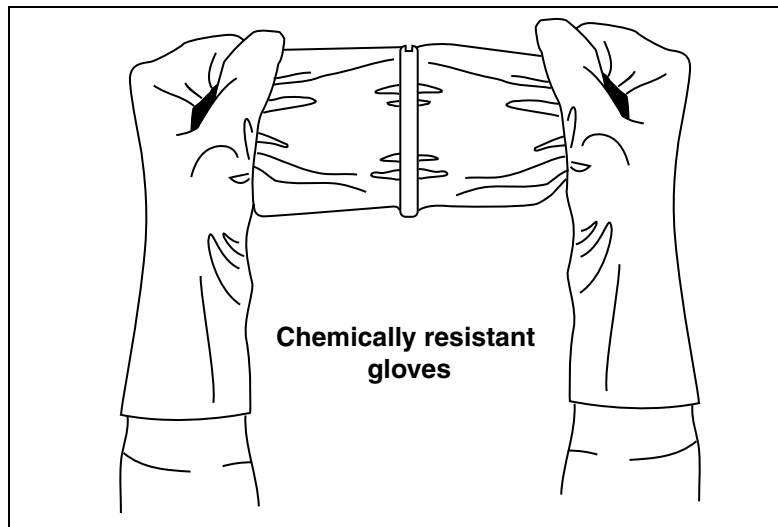

Figure 6. Removing Sealing Compound Clip
4. Remove bag of "Sealing compound" from foil package. Grasp the ends, one in each hand, then pull sharply to remove plastic clip [Figure 6].